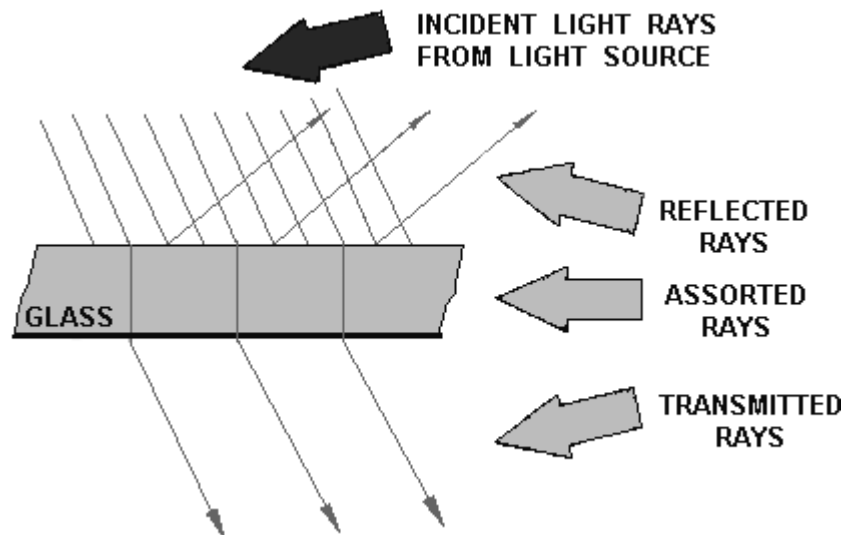
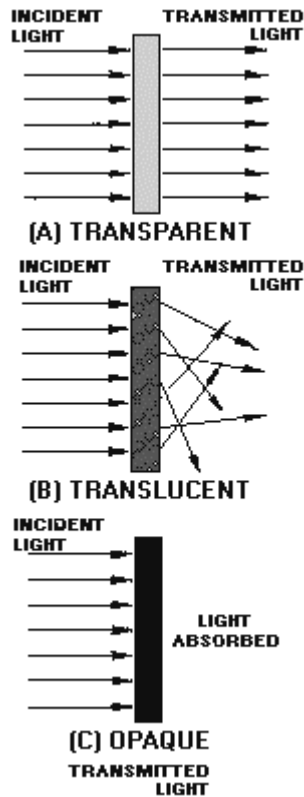

Figure 2-2.—Light waves reflected, absorbed, and transmitted.
Figure 2-3.—Substances: A. Transparent; B. Translucent; and C. Opaque.
1. On Page 2.3 in Figure 2.2 the word “ASSORTED” should be “ABSORBED”.
When light waves, which travel in straight lines, encounter any substance, they are either reflected, absorbed, transmitted, or refracted. This is illustrated in figure 2-2. Those substances that transmit almost all the light waves falling upon them are said to be **transparent**. A transparent substance is one through which you can see clearly. Clear glass is transparent because it transmits light rays without diffusing them (view A of figure 2-3). There is no substance known that is perfectly transparent, but many substances are nearly so. Substances through which some light rays can pass, but through which objects cannot be seen clearly because the rays are diffused, are called **translucent** (view B of figure 2-3). The frosted glass of a light bulb and a piece of oiled paper are examples of translucent materials. Those substances that are unable to transmit any light rays are called **opaque** (view C of figure 2-3). Opaque substances either reflect or absorb all the light rays that fall upon them.